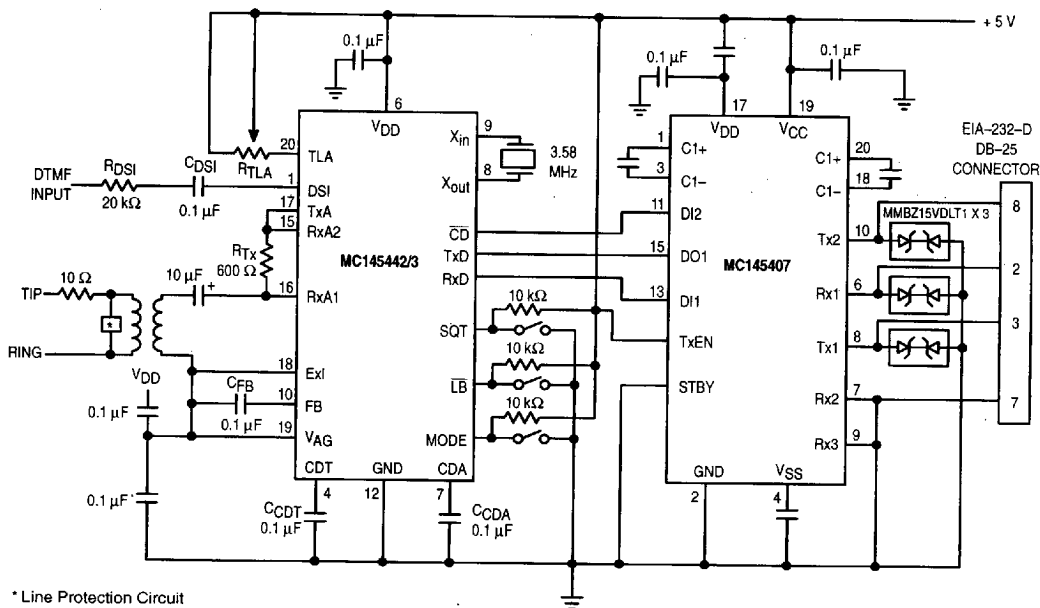

Figure 7. Typical MC145442/MC145443 Applications Circuit
20) to V_{DD} (Pin 6). Table 3 shows the R_{TLA} values and the corresponding power output for a 600 Ω load. The voltage at TxA is twice the value of that at ring and tip because TxA feeds the signal through a 600 Ω resistor R_{TX} to a 600 Ω line transformer (see Figure 7). When choosing resistor R_{TLA} , keep in mind that -9 dBm is the maximum output level allowed from a modem onto the telephone line (in the U.S.). In addition, keep in mind that maximizing the power output from the modem optimizes the signal-to-noise ratio, improving accurate data transmission.